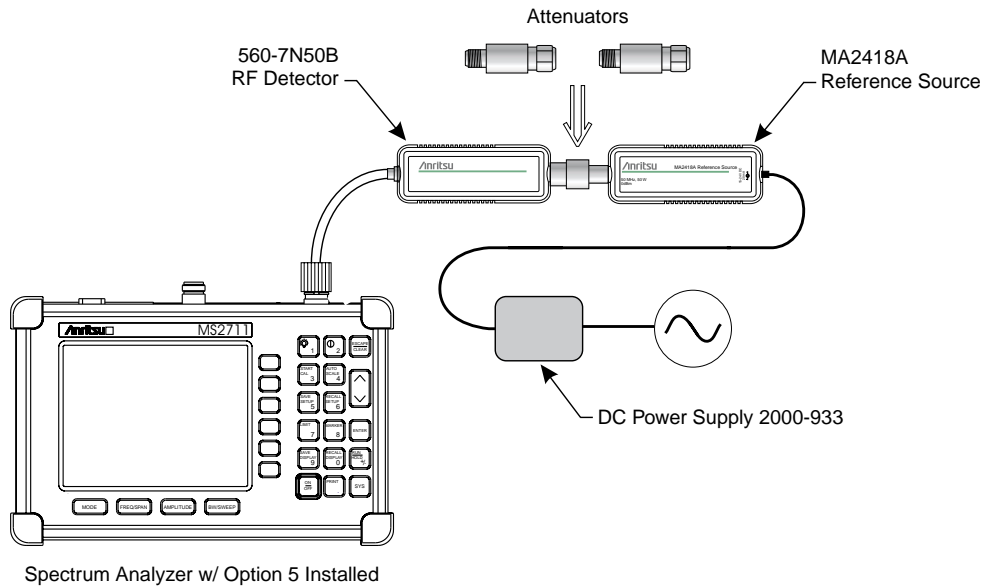

Figure 3. Power Monitor Verification
1. Connect the DC power supply to the MA2418A Reference Source. (Refer to Figure 3, page 5.)
10. Connect the output of the MA2418A Reference Source to the two attenuators so as to add 40 dB of attenuation (Figure 3).